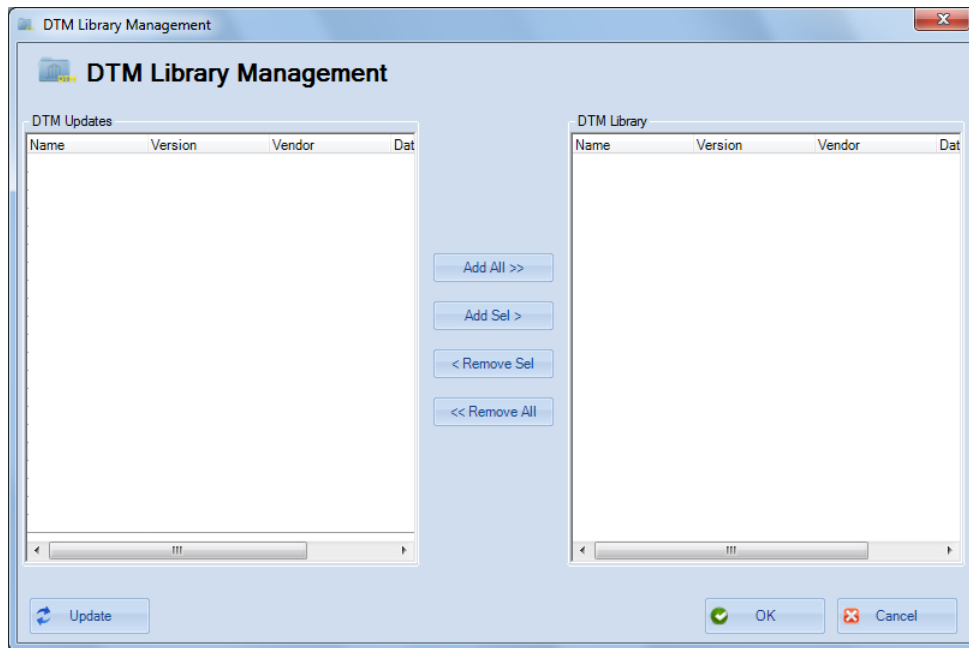

Figure 2 DTM Library Management: Before Update
4. Click **Settings > DTM Library** and Figure 2 appears.